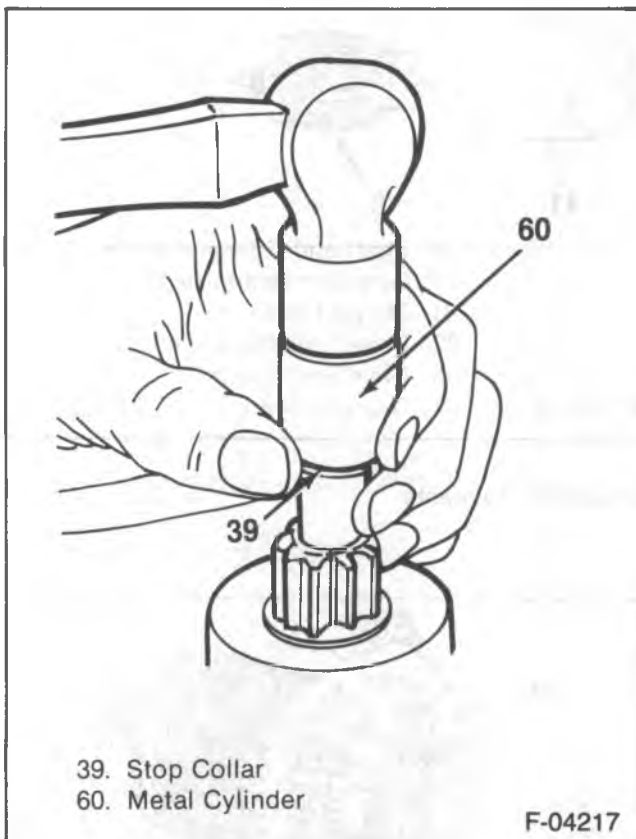

Figure 5—Driving the Stop Collar off the Pinion Stop Ring
- to drive the stop collar (39) off the pinion stop ring (37) (figure 5).